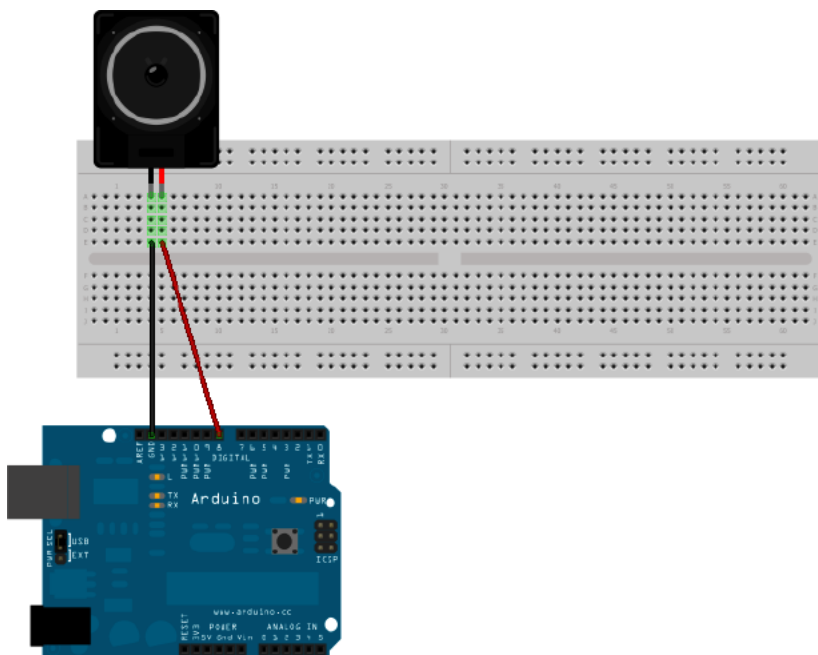

Figure 4-1. The speaker's red wire should be inserted in digital pin 8 and the black wire in GND.
Step 1 Plug your 8-ohm speaker into Arduino, as shown in the breadboard view (Figure 4-1): the red wire into digital pin 8 and the black wire into GND.